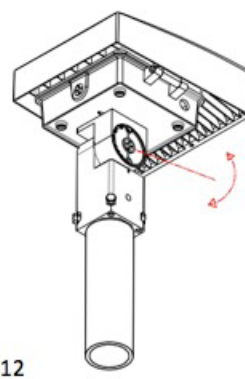

FIG. 12
3. Loose the screw show on the diagram (FIG.12), direction could be adjusted.